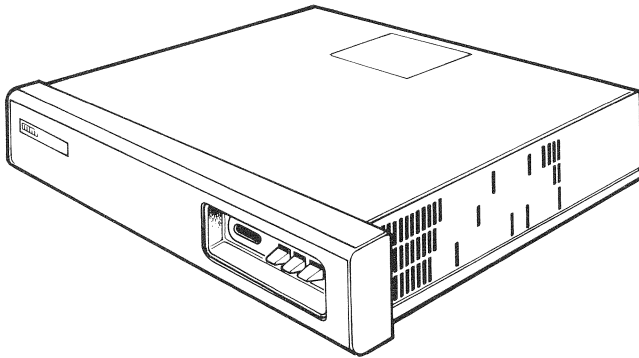

Figure 1-1 BA11-S Enclosure (PDP-11/23 PLUS system only)
- The enclosure. A PDP-11/23 PLUS is mounted in a BA11-S enclosure. The MicroPDP-11/23, MicroPDP-11/73, and MicroPDP-11/83 systems are mounted in BA23-A or BA123-A enclosure (Figures 1-1 through 1-3).